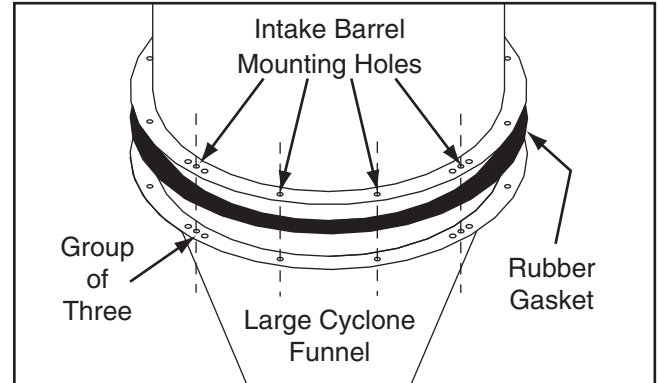

Figure 14. Intake barrel and large cyclone funnel mounting holes aligned.
- With assistance, place intake barrel over large cyclone funnel and align mounting holes as illustrated in **Figure 14**.